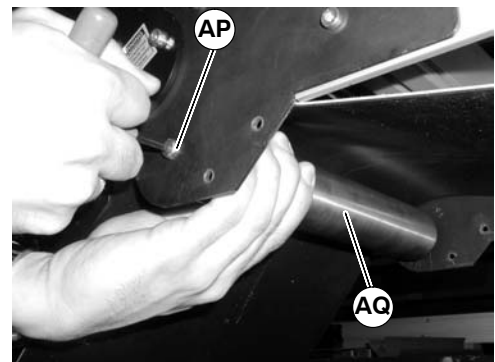

Figure 77
2. Push in hex posts (AP of Figure 77) and remove pulley (AQ).